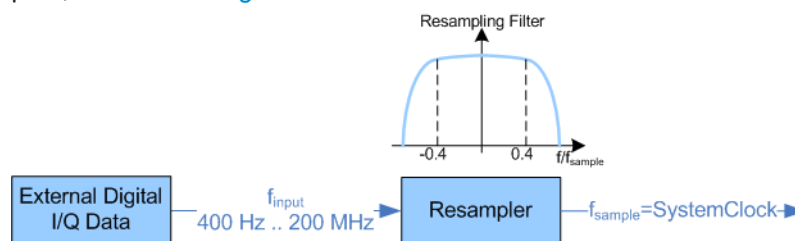

Fig. 7-28: Resampling of external digital baseband signals
- External input signals with sample rates different than the system clock are resampled, as shown in figure 7-28.
- A baseband signal with a sample rate that is smaller than the used system clock is interpolated (see figure 7-28). The resulting modulation bandwidth is calculated as $Sample\ Rate * 0.8$, i.e. with a sample rate of exactly 200 MHz, the modulation bandwidth is 160 MHz.